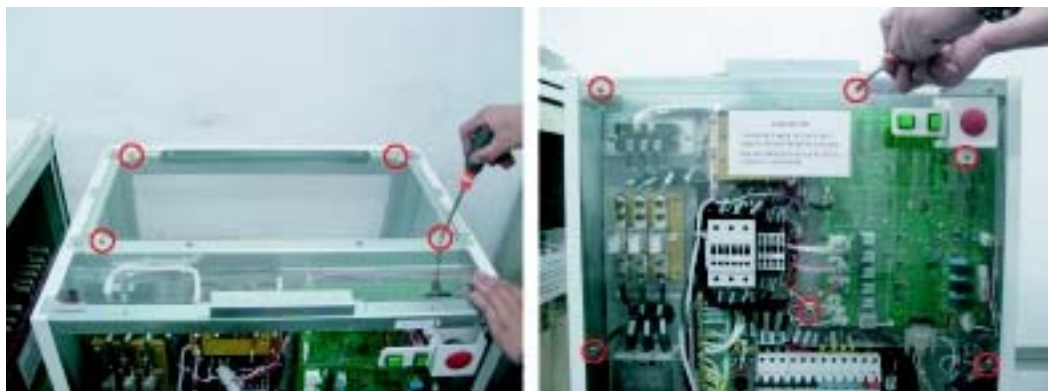

Figure 1 Overheat Protection Installation
7. Remove the Top and Front Plastic covers. See Figure 1.